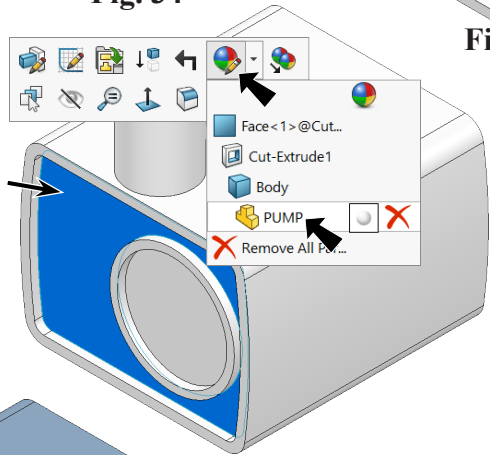

Fig. 36
Step 1. Click part, click **Appearance**  on the context toolbar and click **PUMP**  **Fig. 36**.